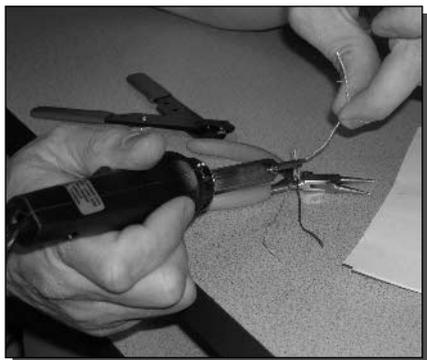

FIGURE 15-13: LCD power and backlight cable reconstruction.
3. Solder the extension wires, noting the following (see Figure 15-13):